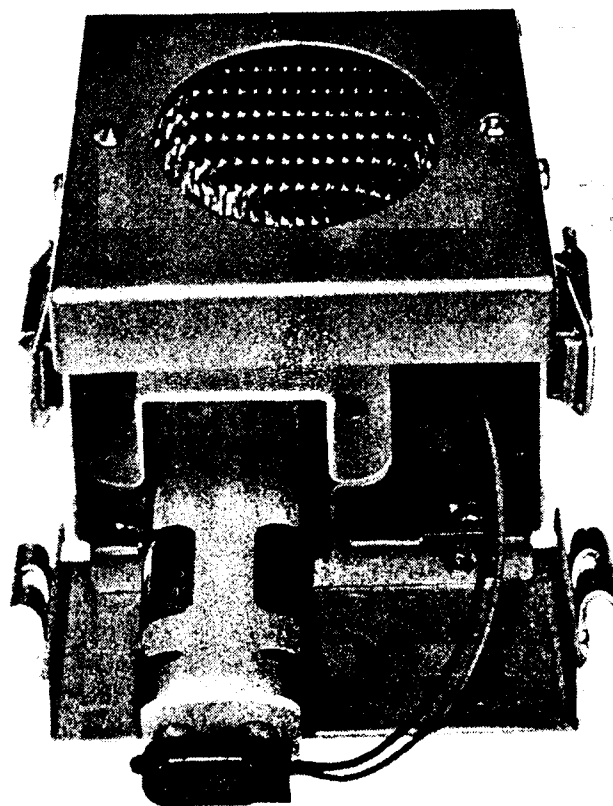

Figure 4
- B. Connect White Battery Pack (Fig. 3) to White Battery Connector (Fig. 4). **NOTE THAT CONNECTOR WILL ONLY FIT ONE WAY.**
- C. Install Battery Pack (Fig. 3) inside Battery Compartment (Fig. 4).